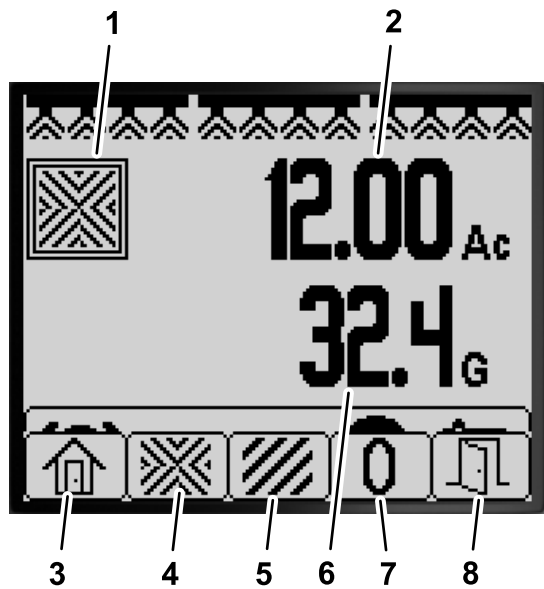

Figure 76
- From the Home screen, momentarily press and hold any button to open the menu bar (Figure 75 and Figure 76).
- Press button 2 for the Total Area screen (Figure 76).
- Use the InfoCenter buttons (Figure 76) to perform the following actions: